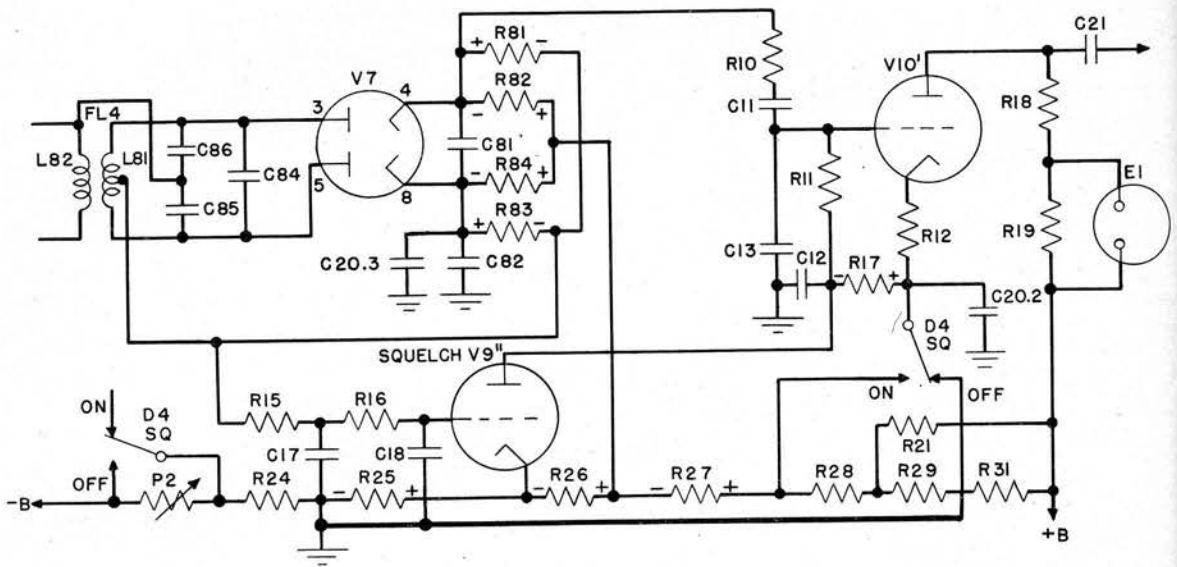

Fig. 30. Radio Receiver BC-683-A: Functional Diagram of Squelch Circuit
*i. Squelch Circuit.* A functional diagram of the squelch circuit is shown in Fig. 30.
When there is no input to the discriminator, no signal voltage will be built up across either R81 or R83. With no signal voltage being received, noise voltage is developed across R81 and R83. If the SQUELCH switch is at ON, the amount of noise voltage is adjustable by means of P2, and the audio-frequency amplifier V10' (Fig. 30) is then biased beyond cutoff by reason of the current (from the plate circuit of the squelch tube V9'') flowing through R17. The CALL SIGNAL light is then extinguished since no current flows in the plate circuit of V10'. It will be observed that the control grid of the squelch tube is positive with respect to the cathode (grid current flow is limited by R15 and R16). The cathode is connected to the junction of R25 and